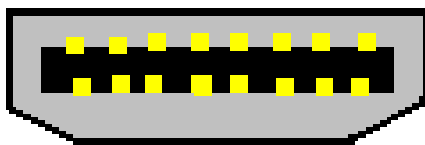

Figure 3-33: HDMI Connector
- CN Location:** See **Figure 3-33**